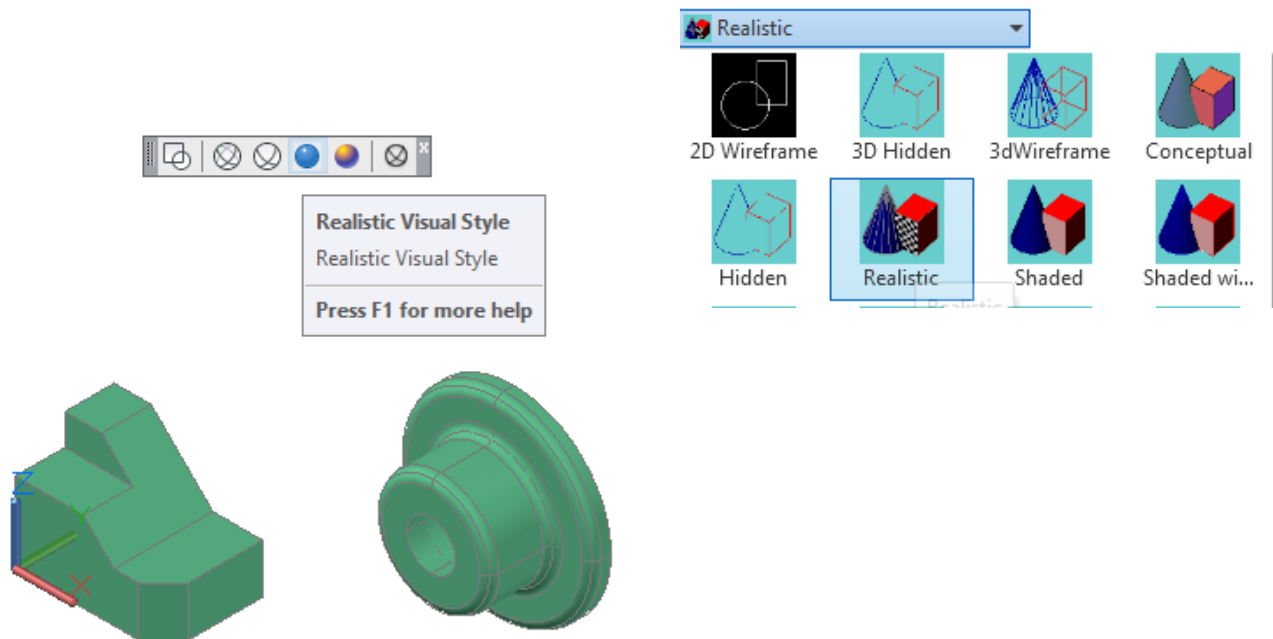

Figure Step 11
Step 11 Click the Realistic visual style icon and note how when the current visual style is Realistic, the appearance of the model is the most basic realistic view of a shaded solid or surfaced model. (Figure Step 11)